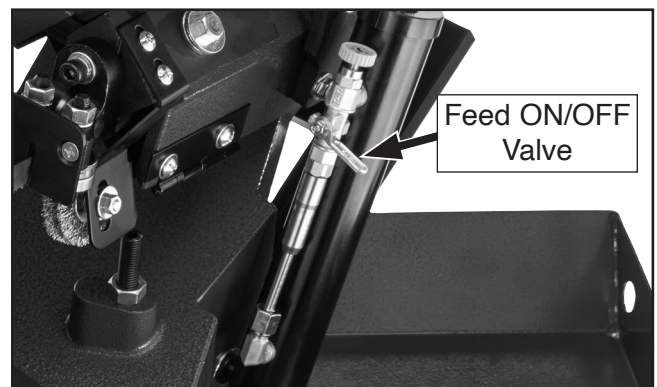

Figure 31. Feed ON/OFF valve.
6. Raise headstock about halfway, then close feed ON/OFF valve to lock headstock in place (see **Figure 31**).